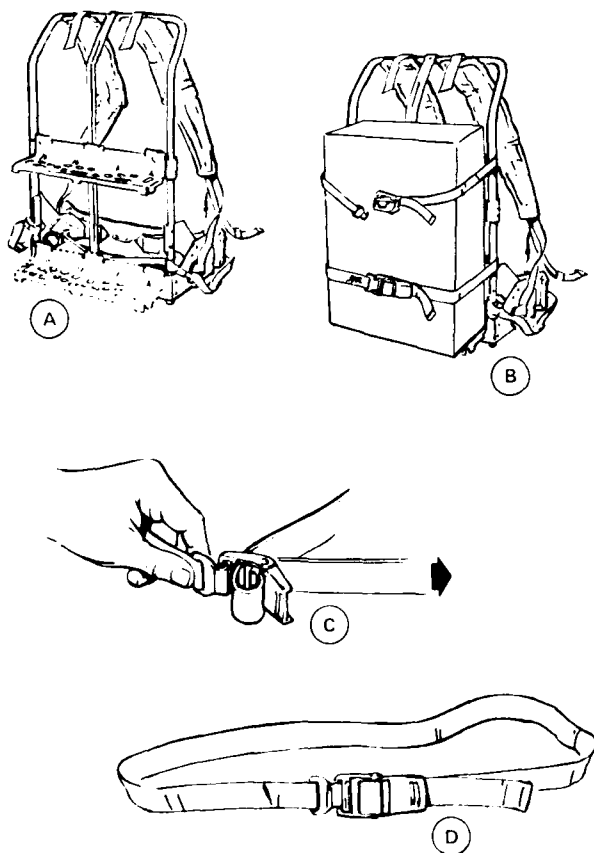

Figure 2-11.—Attaching cargo shelf and load.
**ATTACHING THE CARGO SHELF AND CARGO TO THE FRAME.**—The cargo shelf is very simply slipped onto either the middle or bottom of the back of the frame, as shown in figure 2-11, view A. It is used to support such loads as 5-gallon water or gas cans, cases of ammunition, field rations, radio, or other bulky items.
A load is shown partially tied to the frame with the cargo tie-down straps (fig. 2-11, view B). Two are furnished with each issue.
The tie-down strap buckle is made for a very secure hold of the load to the frame. Proper adjustment, however, is important. The top strap, shown in figure 2-11, view B, is wrapped around the load and frame but not pulled tight. To secure the load, the hooked end should first be inserted in the buckle, as shown in view C, and the loose end pulled in the direction of the arrow for a fairly tight hold, but leaving some slack. The fastener is then pushed into the closed position, shown in